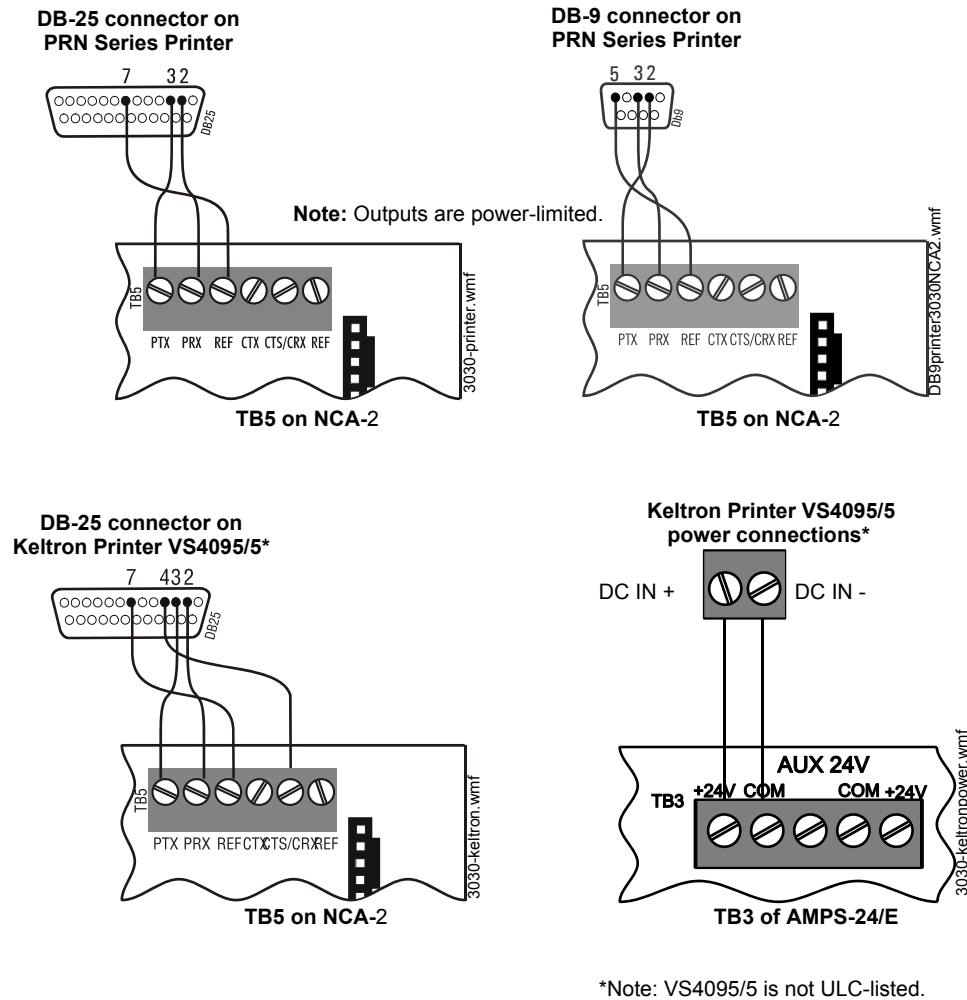

Figure 3.15 Printer Connections
1. Fabricate a custom cable to connect a printer to the system. Length of the cable will vary with each installation, but should not exceed a maximum length of 50 feet (15.24 meters). Printer must be installed in the same room within 20 feet (6.10 meters) of the panel. Using overall foil/braided-shield twisted-pair cable, properly connect one end to the DB-25 or DB-9 Connector (provided) using the wiring specifications shown in Figure 3.15.
2. Tighten clamp on connector to secure cable. Connect the four open leads of the custom cable to the TB5 terminal block on the CPU as shown in Figure 3.15.
3. If installing a Keltron Printer VS4095/5, connect 24 VDC non-resettable power from a UL-listed power supply to the Keltron printer as shown in Figure 3.15 (14 AWG).